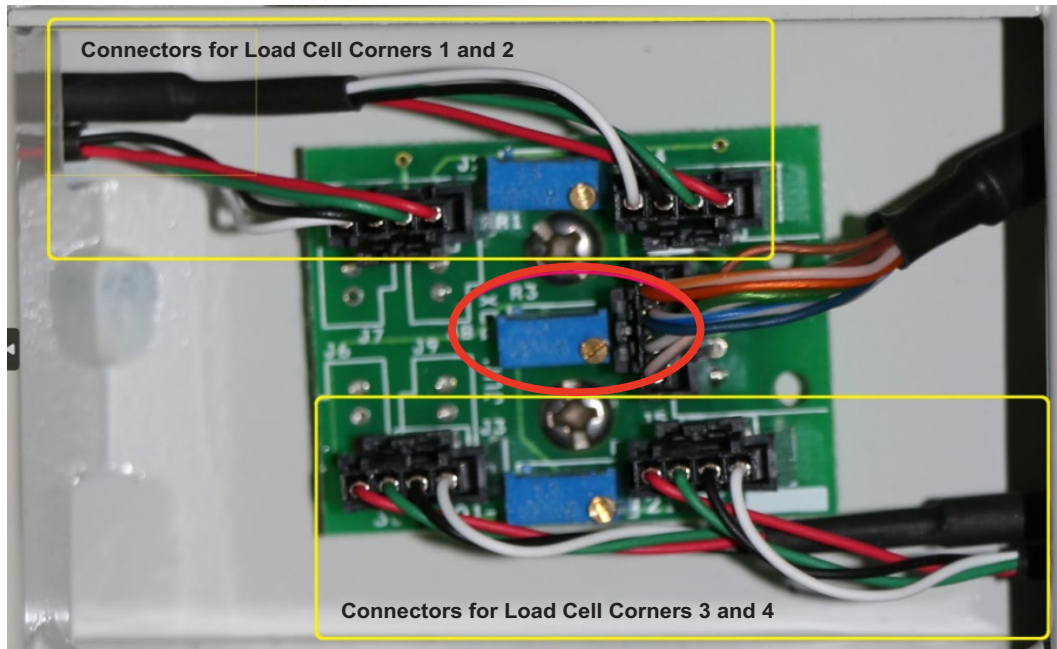

Figure 8. Potentiometer Locations
- Adjust the potentiometer in between the connectors for load cell corners 1 and 2 (see Figure 8).
- Adjust the center potentiometer until an equal value is reached between the sides with a margin of 2 units of A/D (see Figure 8).